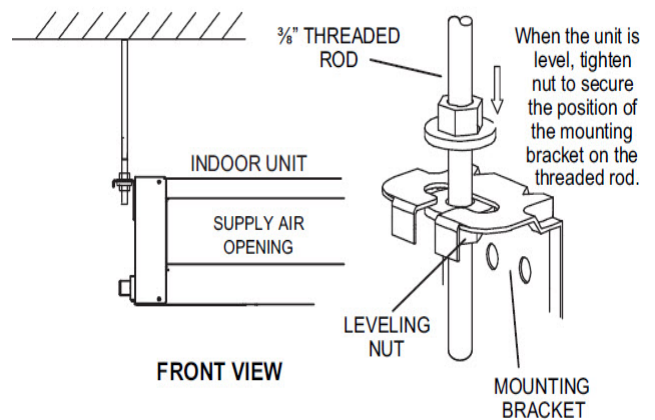

Fig. 13 —Threaded Rod
3. Secure the unit in position with locknuts and washers on both sides of the mounting bracket. Ensure that the threaded rod does not protrude more than two inches below the mounting brackets as shown in Fig. 13.